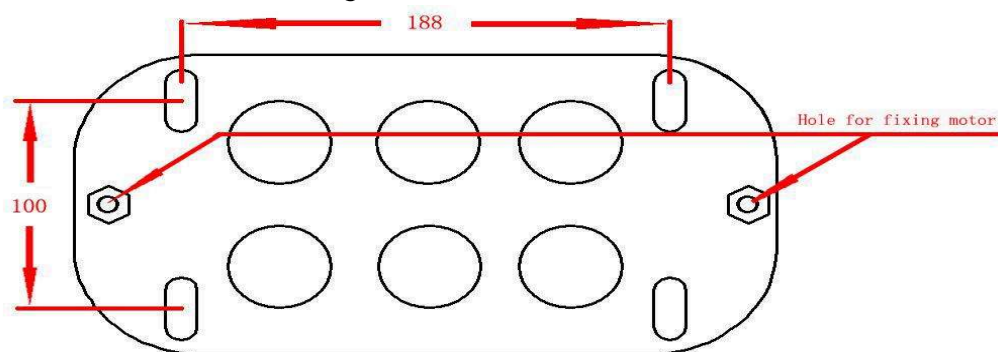

Fig 2
1. Depending on the installation size of the motor and mounting height of racks, after determine the installation position of the motor base plate, first let the bolt embedded or use expansion bolt to make base plate fixed on watering good cement foundation. See Fig 2